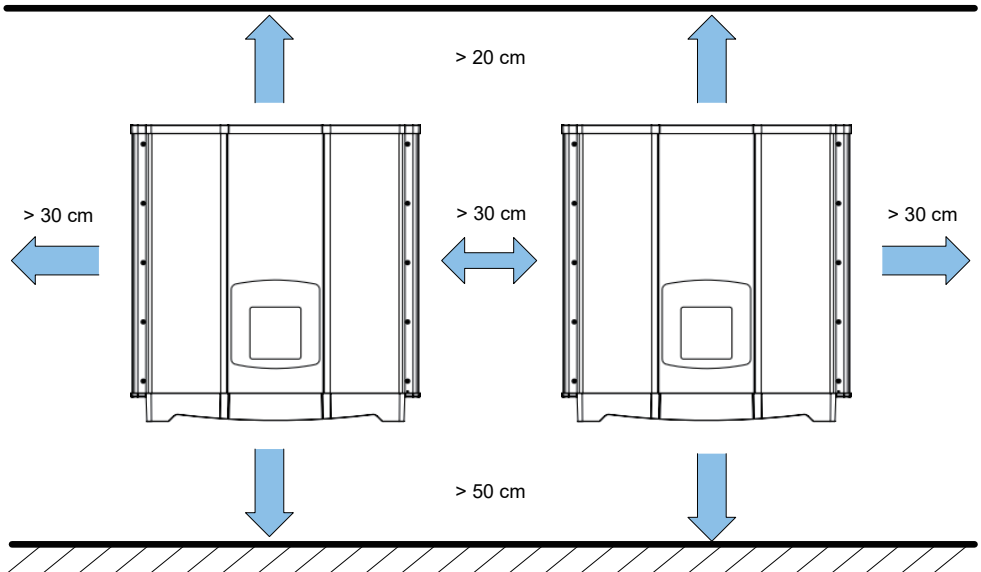

Figure 3-5 Proper installation gap
- Please leave an appropriate gap in between units when installing several solar inverter systems as shown in **Figure 3-5**.